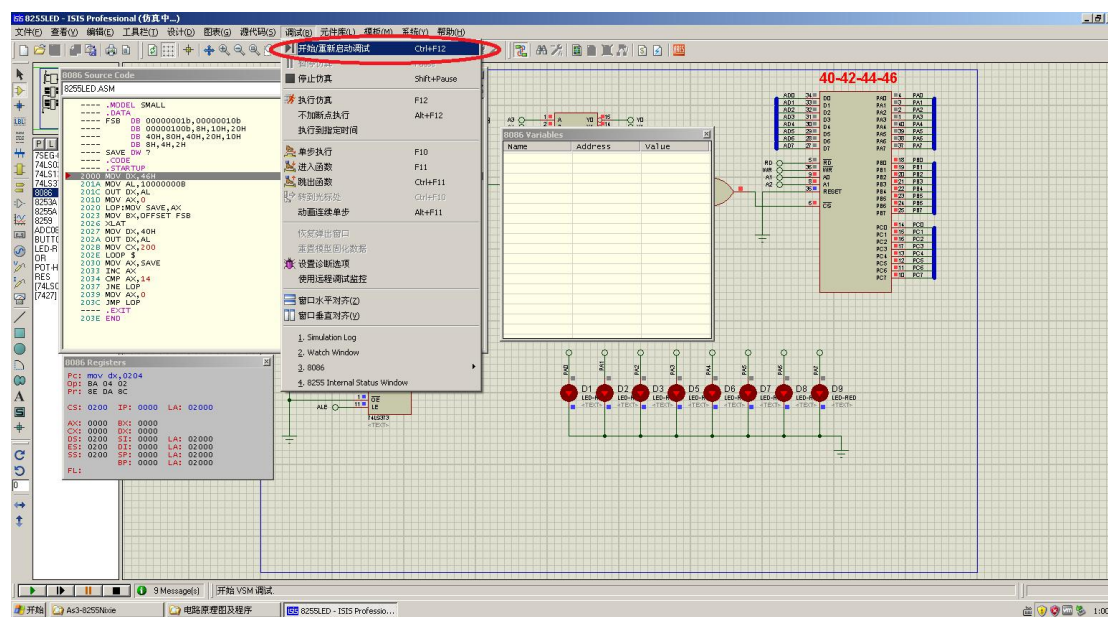

Figure3.8 Debug the program
- (4) Double click the 8086 processor to open a property editor dialog. And in the Program File: input box, select the executable file you produced in step (2);
- (5) Use the [run]  button to run your program with this hardware circuit emulation program.
- (6) If the program contain bugs, use the [debug]  menu and [start to debug...] menu item to start single step debugging process of your program. As shown in figure 3.8.